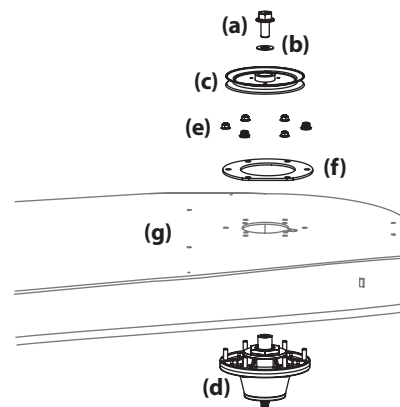
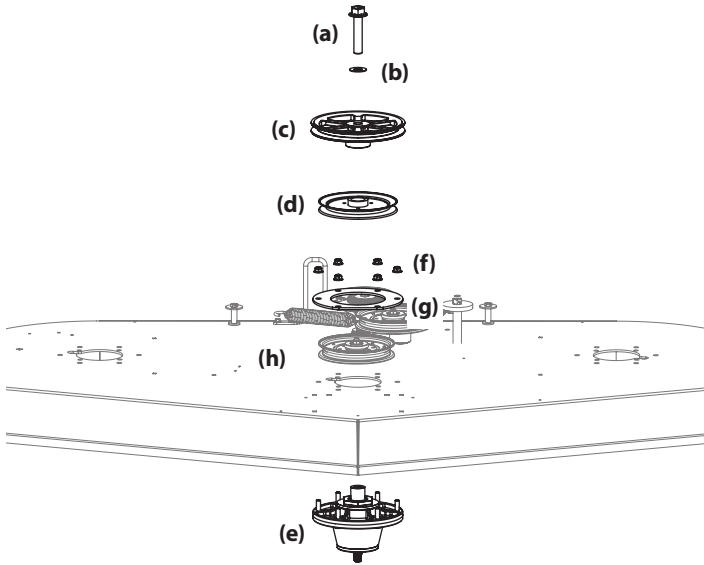

Figure 40
Figure 41
- To remove the left and right spindle assemblies (Figure 40):
- Remove the six (6) flange lock nuts (e) securing the left and right spindle assemblies (d) and the support plates (f) to the deck shell (g).
- To remove the left and right spindle assemblies (Figure 41):
- Remove the six (6) flange lock nuts (f) securing the center (d) spindle assembly (e) and the support plates (g) to the deck shell (h).
- Reverse the process to install the spindle assembly. When installing the new spindle assembly be sure to install the hardware exactly as shown in Figure 40 or Figure 41. Torque the hex flange bolts to 250 ft-lbs. (338.95 N-m) and the flange lock nuts to 21-32 ft-lbs (28.47-43.39 N-m).